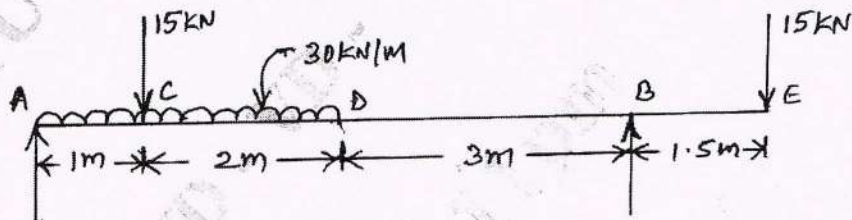

Fig. Q6(b)
- b. Construct SFD and BMD for the beam loaded shown in Fig. Q6(b). Also locate the point of contraflexure.